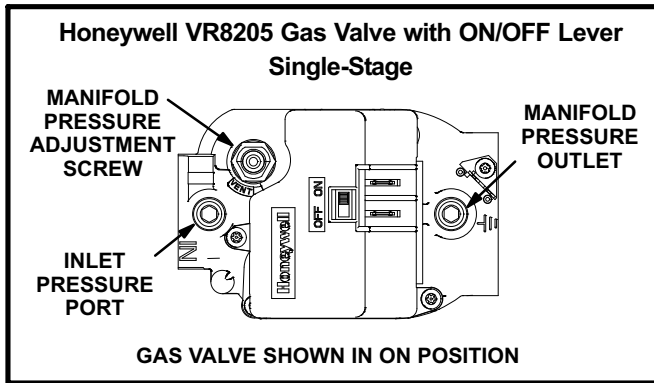
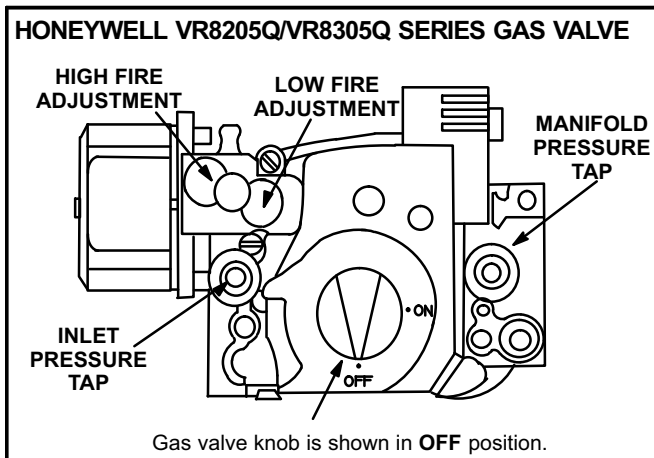

FIGURE 2
FIGURE 3
#### Gas Valve Operation (figures 2 and 3)
- 5- *Honeywell VR8205 Gas Valve with ON/OFF Lever* - Switch gas valve lever to **OFF**. See figure 2.
*Honeywell VR8305 Gas Valve with Knob* - Turn knob on gas valve clockwise  to **OFF**. Do not force. See figure 3.
- 6- Wait five (5) minutes to clear out any gas. If you then smell gas, **STOP!** Immediately call your gas supplier from a neighbor's phone. Follow the gas supplier's instructions. If you do not smell gas, go to the next step.
- 7- *Honeywell VR8205 Gas Valve with ON/OFF Lever* - Switch gas valve lever to **ON**. See figure 2.
*Honeywell VR8205 Gas Valve with Knob* - Turn knob on gas valve counterclockwise  to **ON**. Do not force. See figure 3.
Manifold pressures are shown in table 2. Refer to figures 2 and 3 to locate pressure ports.